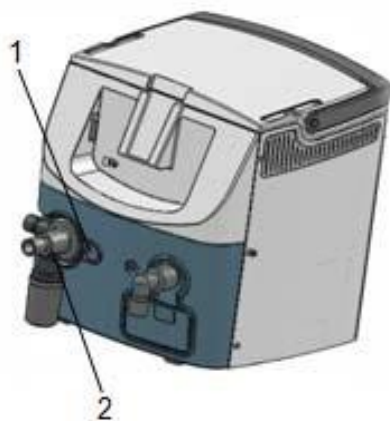

Figure 8-10
- a. Press the button (Part1 in Figure 8-10);
- b. Pull out the expiratory valve core component (Part 2 in Figure 8-10);